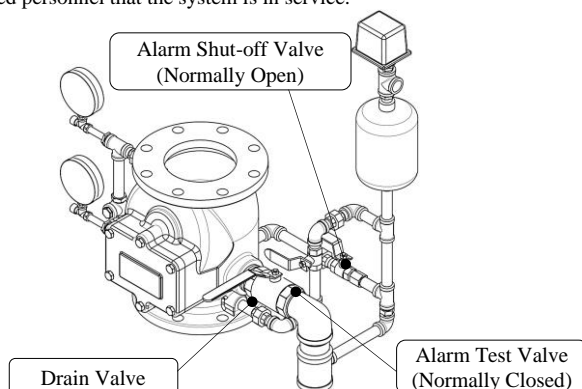

Figure 8 Normal operating position for Setting the Alarm Check Valve in service
10. Verify that all valves are in normal operating position as indicated in Figure 8.
6. Verify that all valves are in normal operating position as indicated in Figure 8.
7. Open the Alarm Shut-off Valve and confirm that all other valves are in normal operating position as indicated in Figure 8.
10. Open the Alarm Shut-off Valve and confirm that all other valves are in normal operating position as indicated in Figure 8.